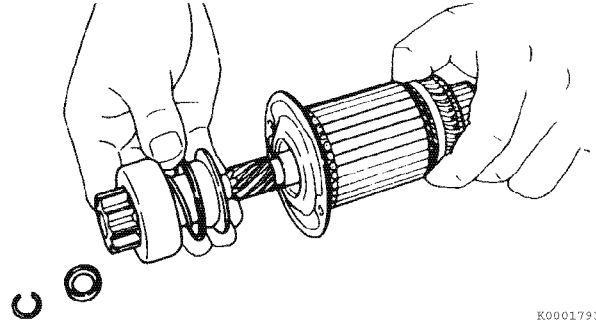

Figure 8-30
3. Install the retaining ring in groove in the shaft. Slide the pinion stop over the retaining ring (**Figure 8-30**).